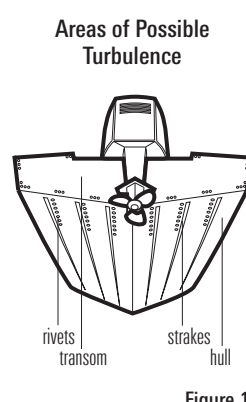

Figure 1
- **Observation:** The best way to locate turbulence-free water is to view the transom while the boat is moving. If this is not possible, select a location on the transom where the hull forward of this location is smooth, flat, and free of protrusions or ribs (Figure 1).